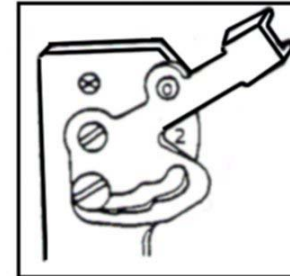

Fig. 3
3. When darning or sewing freehand embroidery, release the pressure by setting the lever on "0". (See fig. 3.)
Release the presser foot by raising lever “e” located at the back of the foot holder. (See fig. 3)
Levantarse el pie. (fig. 3)